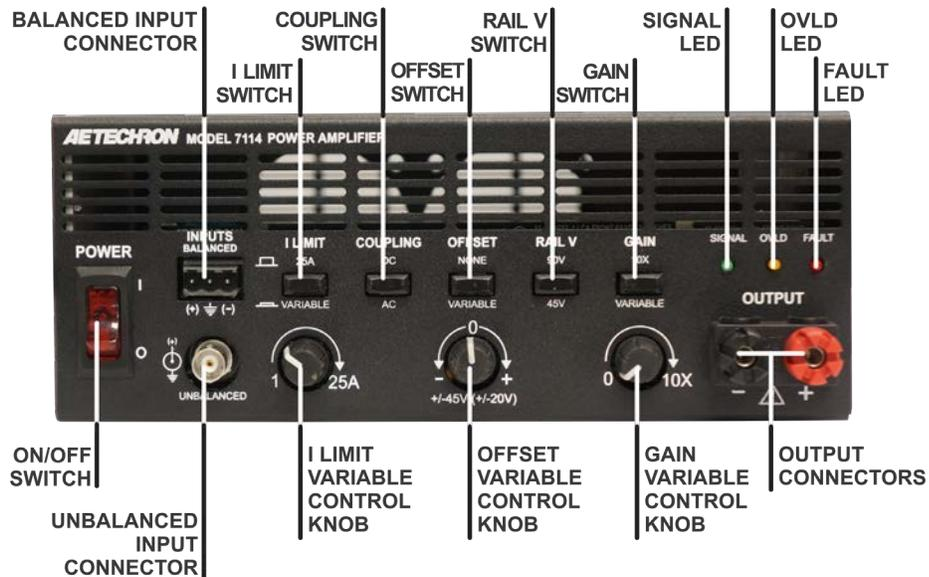

Figure 4.1 – Front Panel Controls, Indicators and Connectors (7114 model shown)
This section provides an overview of Front-Panel controls found on the 7100-series amplifier. See **Figure 4.1** for control locations.
The lighted rocker POWER switch controls the AC mains power to the unit. Switch to the ON position (I) to turn the unit on. The switch's internal LED will light. Switch to the OFF position (O) to turn the unit off. See **Figure 4.1**.
Three status indicators are located on the front panel. See **Figure 4.1** for component locations.
This section provides an overview of the connectors found on the 7100-series amplifier. Please refer to **Figures 4.1, 4.2 and 4.3** for visual locations.